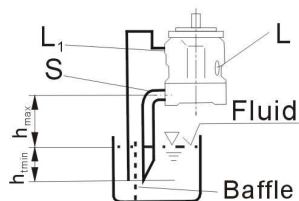

Fig.2
b) If the minimum fluid level is below the pump mounting face pipe port "L₁" and "S" according to Fig.2.
Before installation fill the pump housing, keeping it in a horizontal position. For mounting above reservoir see Fig.2.